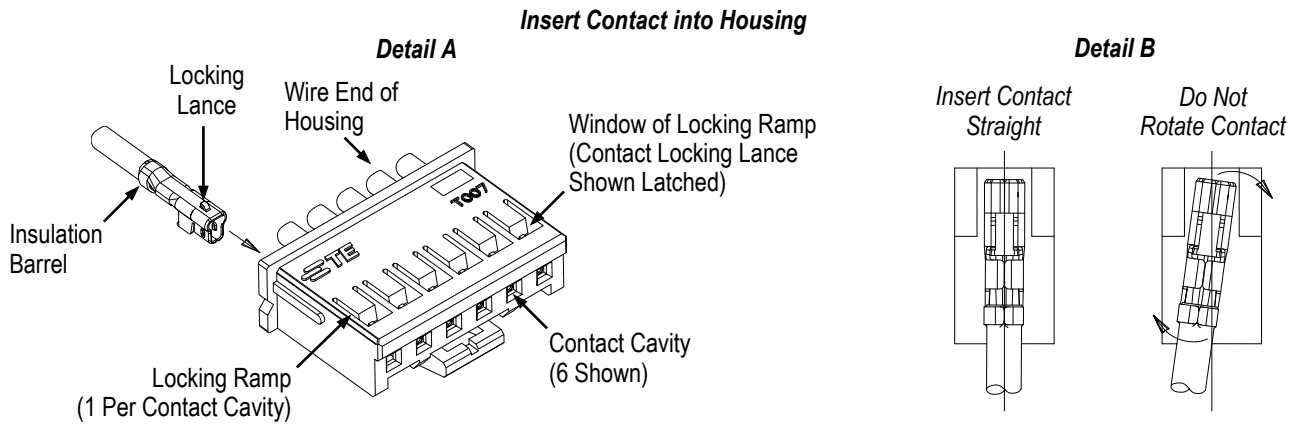

Figure 2
- a. Grasp the contact directly behind the insulation barrel, and align the contact with housing contact cavity from the wire end of the housing so that the locking lance is aligned with the locking ramp. See Figure 2, Detail A. Make sure that the contact is perpendicular (not at an angle) to the contact cavity. See Figure 2, Detail B.
- b. Push the contact straight, and not rotated, into the contact cavity. If it is rotated, damage to the contact will occur or the contact will not latch properly onto the locking ramp. See Figure 2, Detail B. Do not force the contact into the housing.
- c. Ensure that the contact locking lance latches onto the locking ramp. The locking lance can be viewed through the window of the locking ramp. See Figure 2, Detail A.